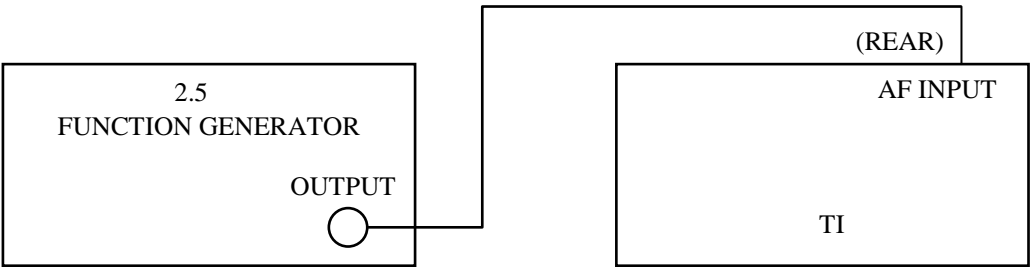

Figure 5. AF Frequency/Voltmeter Test Configuration
4.3.1 Connect the equipment as shown in Figure 5.